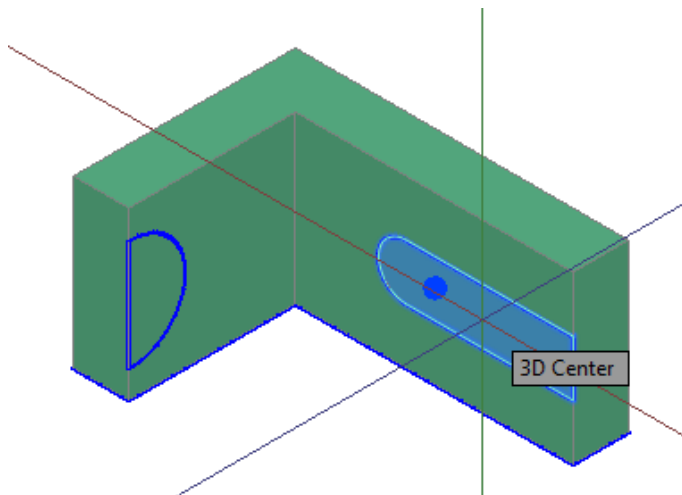

Figure Step 10A
Step 10 Enter the PRESSPULL command and when prompted, select inside the closed pline as shown in the figure. Snap to the back corner to indicate the depth of the extrusion. (Figure Step 10A and 10B)